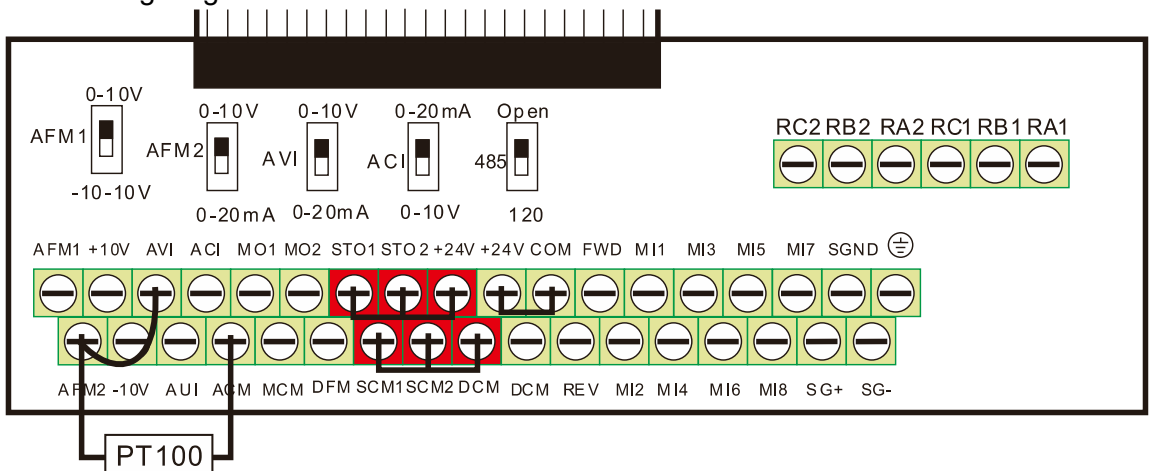

Figure 1
1. Switch AFM2 to 0–20mA on the I/O control terminal block. (Refer to Figure 1, PT100 wiring diagram)
2. Wiring (Refer to Figure 1, PT100 wiring diagram):